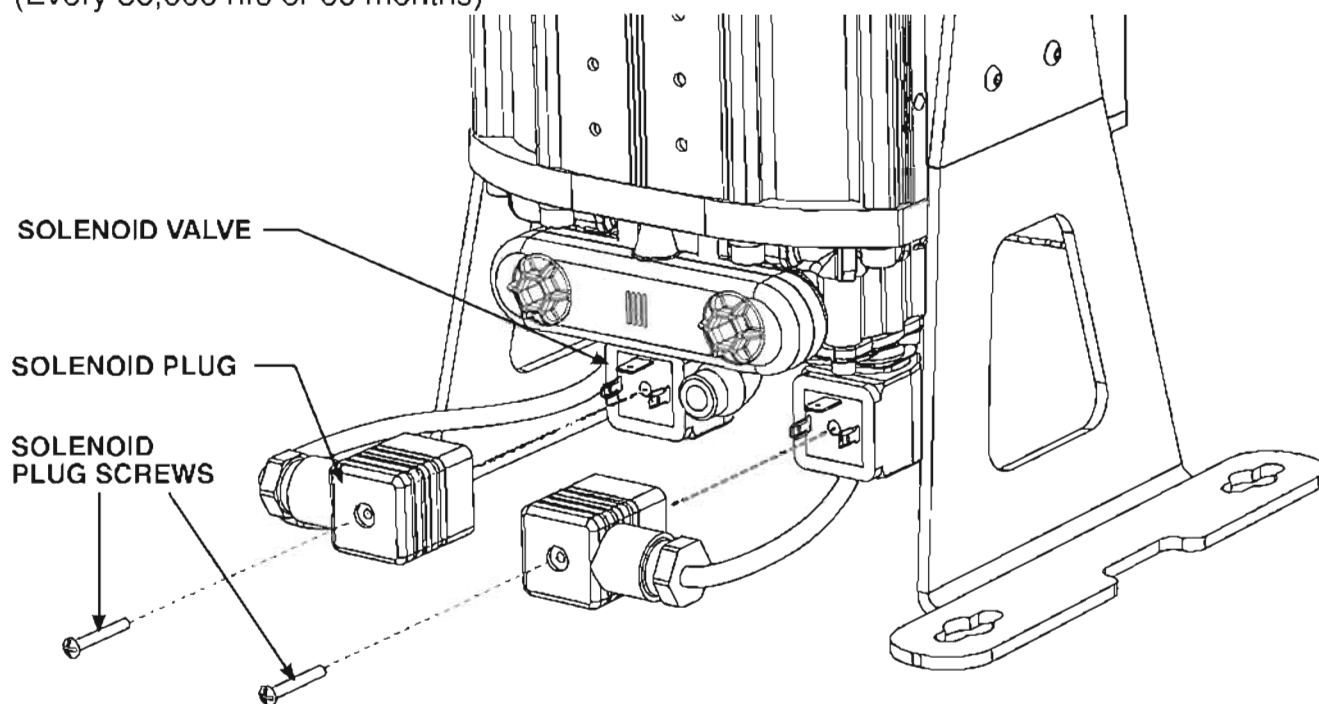

Figure 1.
2. Remove the solenoid valve plugs by removing the plug screws and pulling the plug free from the solenoid. (See Figure 1)